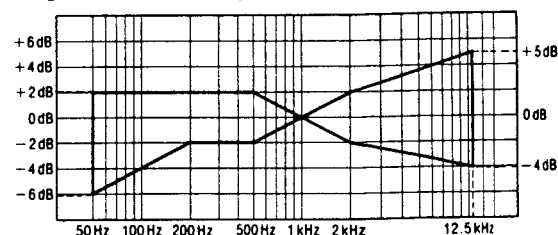

Fig. 11
8. Assure that the level is within the range shown in Fig. 11.